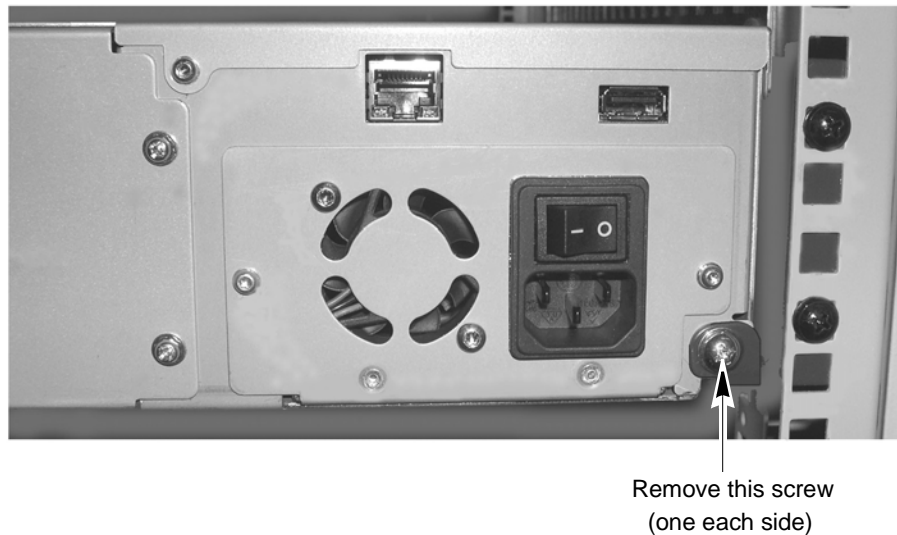

Figure D-6 Removing the screws securing the library to the rails
1. From the back of the rack, use a #2 Phillips screwdriver to remove the two screws that secure the library to the rails (see Figure D-6). Save the screws.